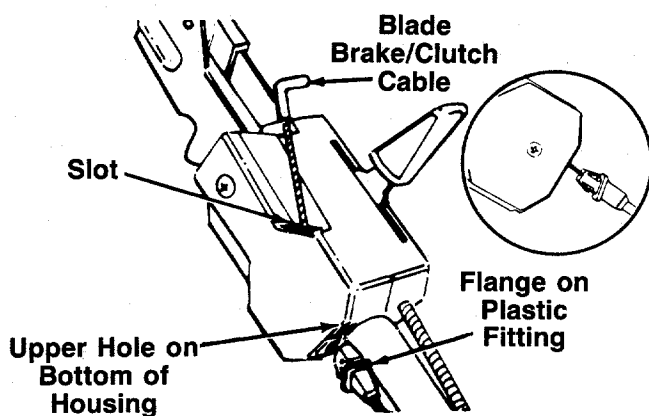

FIGURE 3.
2. Place end of cable into the upper hole on the bottom of the control housing, and through the slot as shown. The angle of the plastic flange must be positioned downward as shown in figure 3. Be careful not to bend or kink the cable at any time.